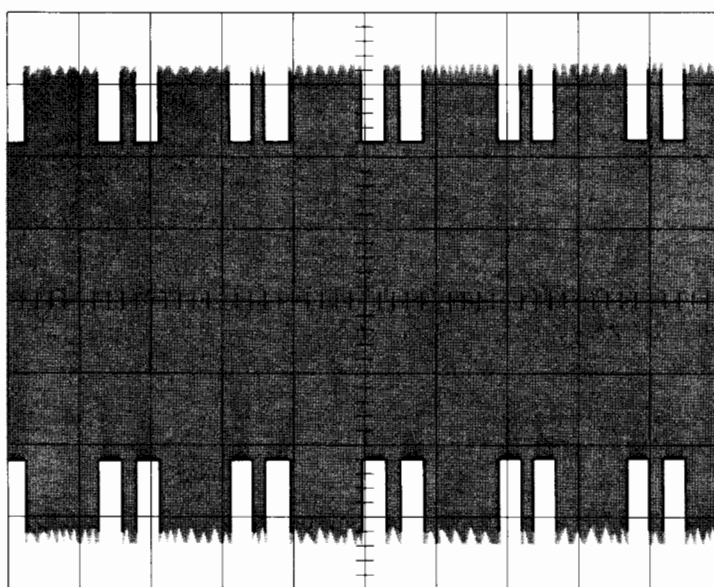

Figure 3-18. Track 0 Data Pattern
8. Loosen the 2 stepper motor mounting screws and rotate the stepper motor case until the track 0 data appears on the scope (see Figure 3-18). Rotate until maximum amplitude is obtained and tighten the mounting screws. This is only a rough adjustment.